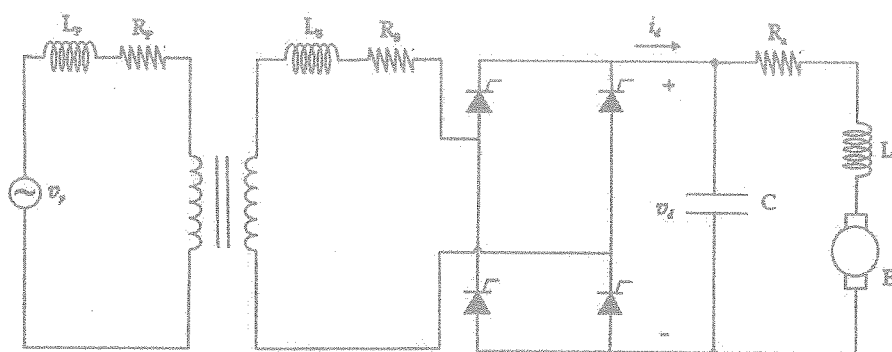

Figure Q1(c) PE system
- c) The armature of a 4.0 hP separately excited DC motor is supplied by a power electronic (PE) system as illustrated in Figure Q1(c). The DC side and the AC side of the thyristor converter are connected to the DC motor and a 4.2 kVA, 50 Hz, single phase distribution transformer, respectively. The turns ratio of the transformer is 0.5 and it is supplying the rated load. It is found that the THD of the PE system is 48.43%. The parameters of the system components are listed in Table Q1(c) -1 and the IEEE harmonic guide lines are given in Table Q1(c)-2.